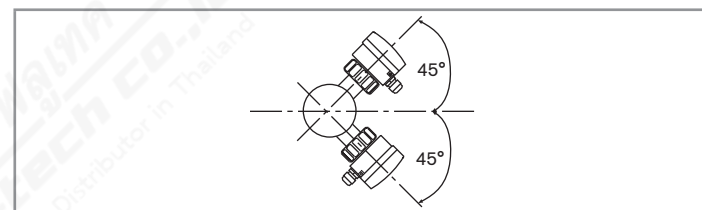

Fig. 8: Mounting angle on the pipe
- We recommend to install the device at a 45° angle to the horizontal centre of the pipe to prevent deposits on the electrodes and false measurements due to air bubbles (see Fig. 8);